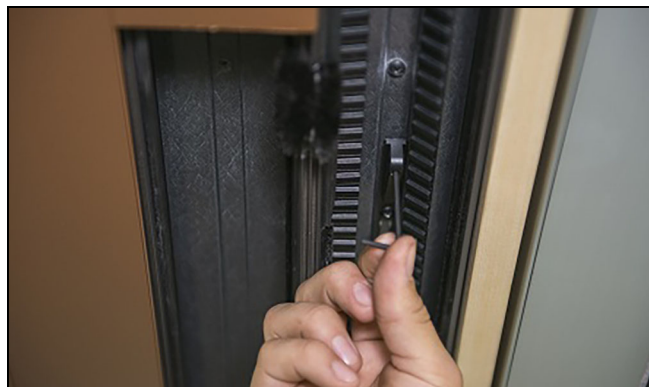

Figure 44
7. Open and close the door using Sliding Door Automatic Control System. Ensure the door manually locks. If the door doesn't manually lock, adjust the set screw. See Figure 44.